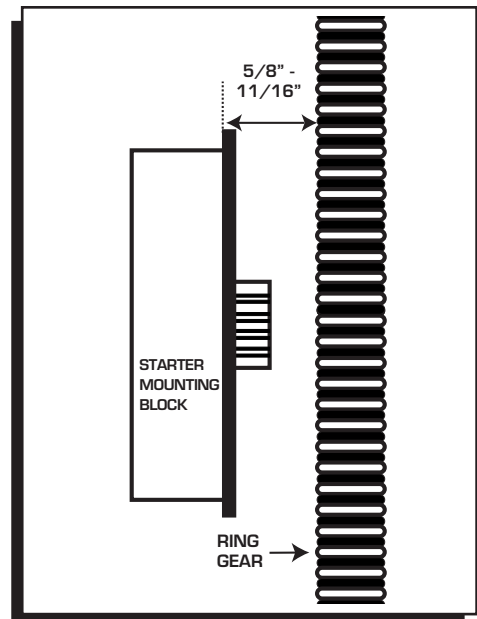

Figure 2 Checking Pinion Clearance.
2. Before mounting the starter, measure the distance from the front of the ring gear (engine side) to the starter mounting surface. It should be $5/8"$ - $11/16"$ (Figure 2).